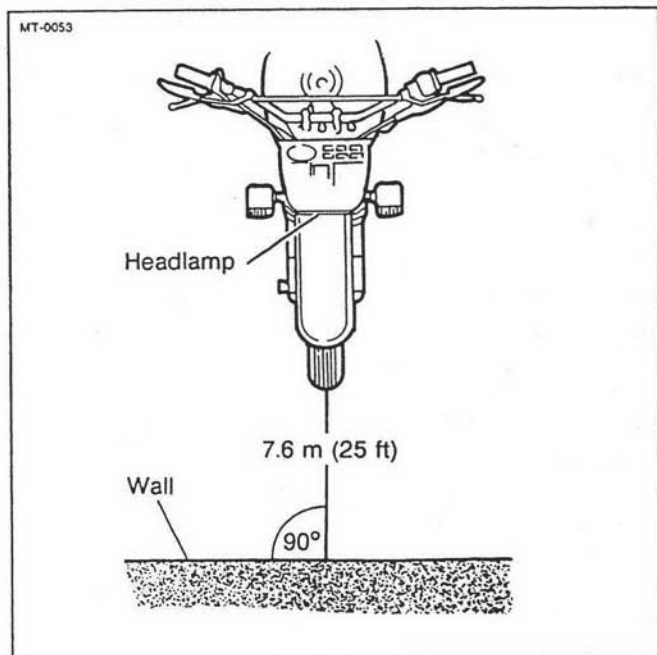

Figure 5-20. Vehicle Position for Headlamp Aiming
1. See Figure 5-20. Position the vehicle on a flat surface directly perpendicular to a vertical wall 7.6 m (25 ft) from the headlamp lens.